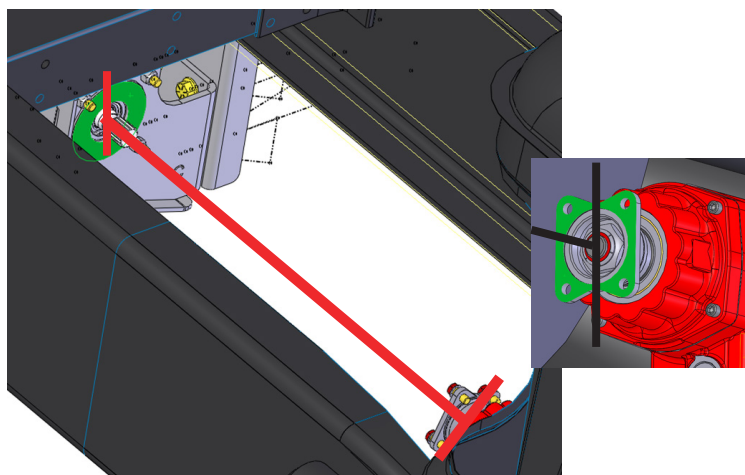

Figure 5
- A. Use a tape measure to measure from the PTO flange to the front face of the pump on the vehicle (Figure 5 shown with the CV shaft removed for illustrative purposes only. There is no need to remove the CV shaft to obtain the measurement).